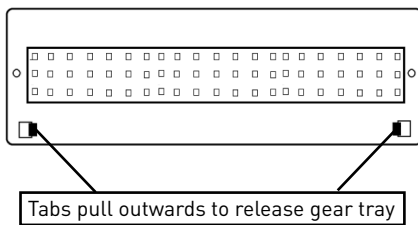

Fig 1
- Release the gear tray by pushing the release tabs outwards of the fitting see (Fig 1)